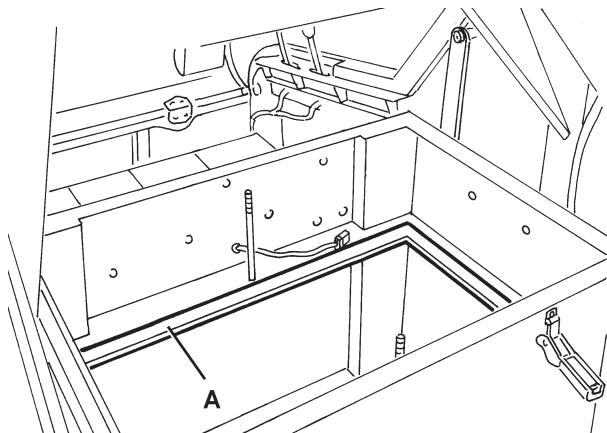

Figure 15
10. If necessary, clean the filter compartment rubber gasket (A, Fig. 15) along its perimeter and check it for integrity. If necessary, replace it.